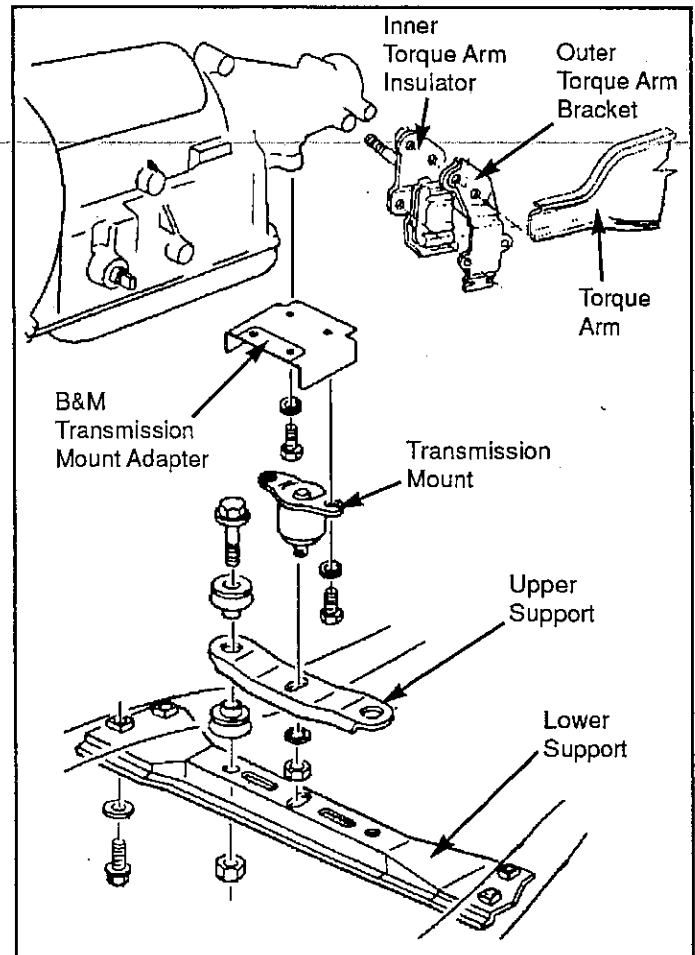

Figure 7
B. TH-700 installations. Bolt the supplied mount adapter to the transmission mount holes on the TH-350 transmission as shown in Fig. 7. The two welded in studs should point down and be towards the rear of the vehicle. Install transmission mount to the two studs with flat washers, lock washers and nuts, Install the upper transmission support, raise transmission high enough to install lower transmission support to frame. Sandwich torque arm between inner and outer torque arm brackets making sure the isolator mounts match the shape of torque arm, then bolt inner and outer brackets together. Install lower transmission support to frame then remove transmission jack and finish support installation.